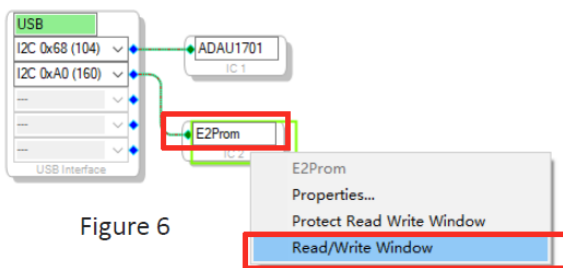
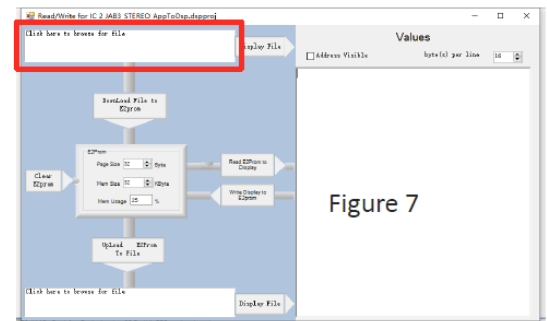

Figure 6
Figure 7
1. Right click the “E2PROM” (see Figure 6) and click “Read/Write Window”. You will see the following interface (Figure 7).